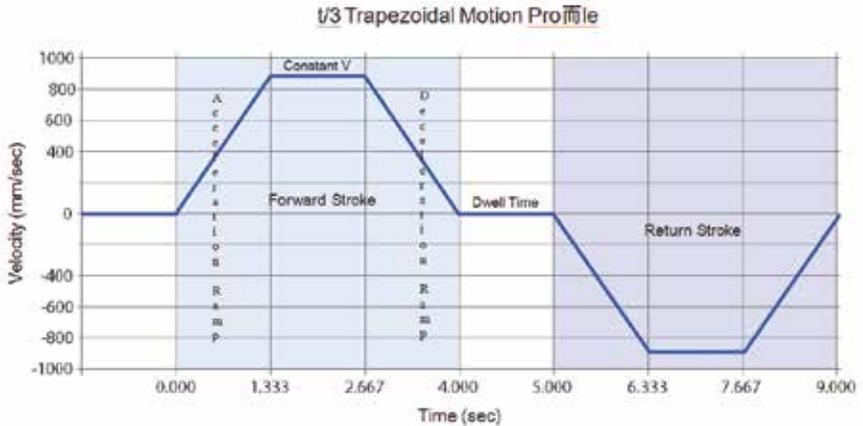

Figure 2
**Rates :** To choose the best actuator for the application, it is critical to know the desired motion profile, which includes travel speed as well as the required acceleration and deceleration rates. While some industrial duty actuators are designed to support high loads at travel speeds to 5 m/s, others are more limited in their speed and load capacities. The most important point is to correctly match the actuator to the task at hand (See Figure 2). Specifying an actuator is not rocket science, but it does require some planning and a basic understanding of the issues described here. Gathering expert advice from a trusted supplier can significantly streamline this process.